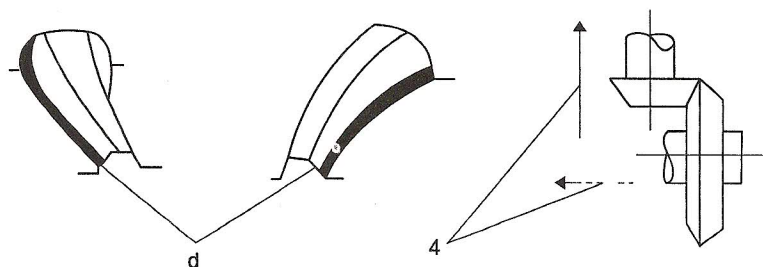

Fig. 05-49
- (4) In case the engagement trace is like what is shown as (d), then move the driving gears away the driven gears. If finding the clearance is too much, then move the driven gears inner-wards. The direction for moving gears is shown in (4) (See Fig. 05-49).